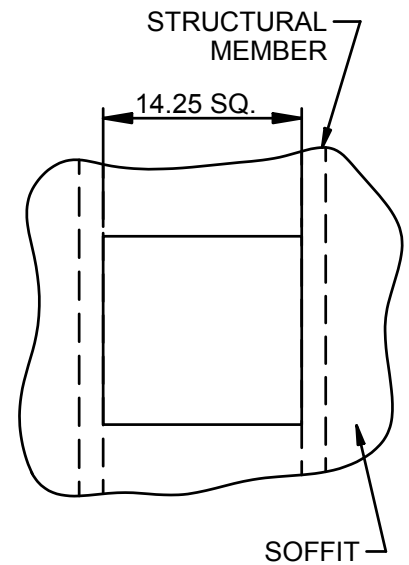

FIG. 1
1. CUT A 14.25" SQUARE HOLE IN SOFFIT BETWEEN STRUCTURAL MEMBERS. SEE FIG. 1.